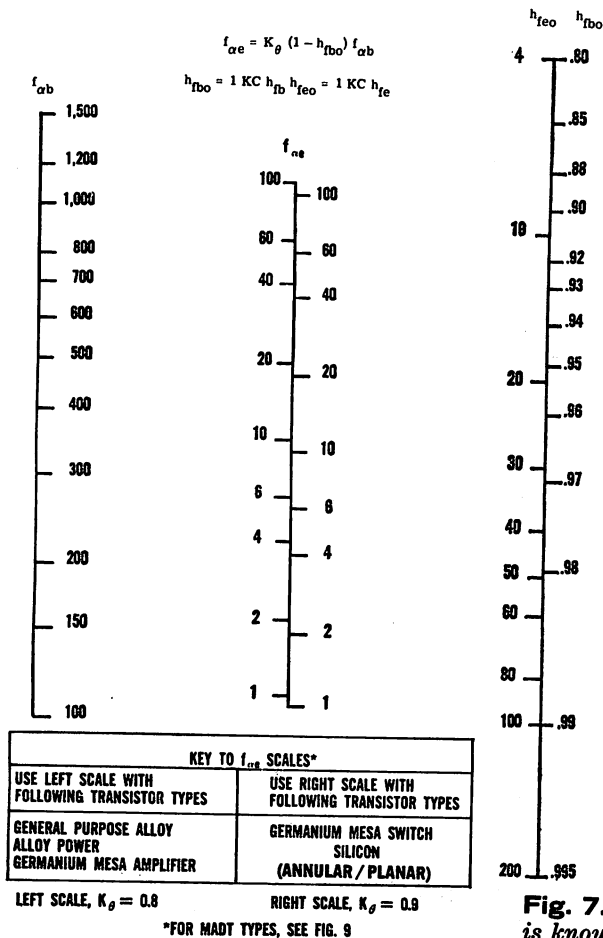
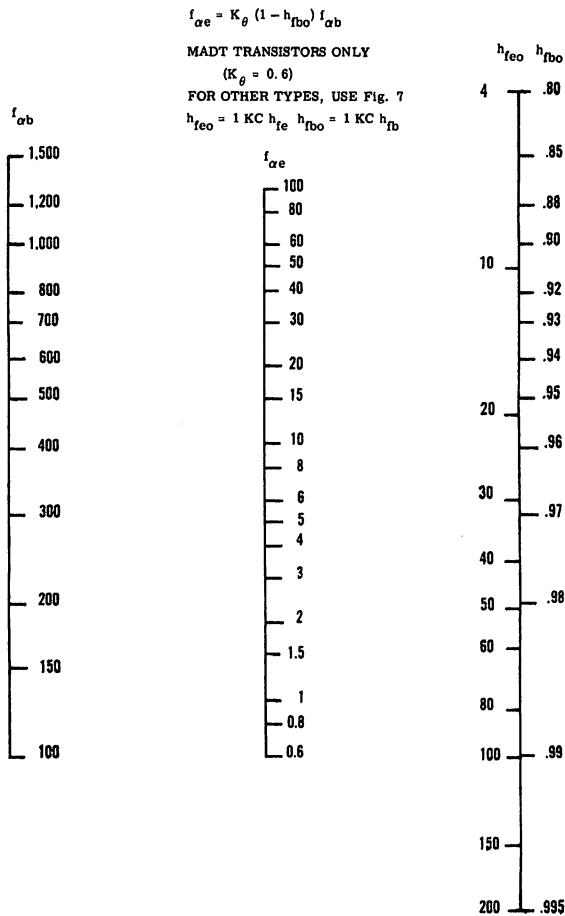

Fig. 7. Once $f_{\alpha b}$ is known this nomogram is used to find $f_{\alpha e}$.
Fig. 9. This nomogram is identical to Fig. 7 but is used for MADT transistors.
- (C) If $f_{\alpha e}$ is not known, use Fig. 5 to find $f_{\alpha e}$ if f_T is known (Fig. 7 to find $f_{\alpha e}$ if $f_{\alpha b}$ is known (Fig. 9 for MADT types).
Fig. 7 is a nomogram of $f_{\alpha b}$, $f_{\alpha e}$, and either h_{fbo} or h_{feo} . To account for variations in this relationship with different transistor types, there are two $f_{\alpha e}$ scales, with a guide to which one to use. Given: for a GPA transistor, $f_{\alpha b} = 1$ mc and $h_{fbo} = 0.90$. Find: $f_{\alpha e}$. Answer: 80 kc. For MADT types, see Fig. 9.
Figure 9 is a nomogram which is identical to Fig. 7 except that it is for use with MADT transistors (see instructions for Fig. 7).